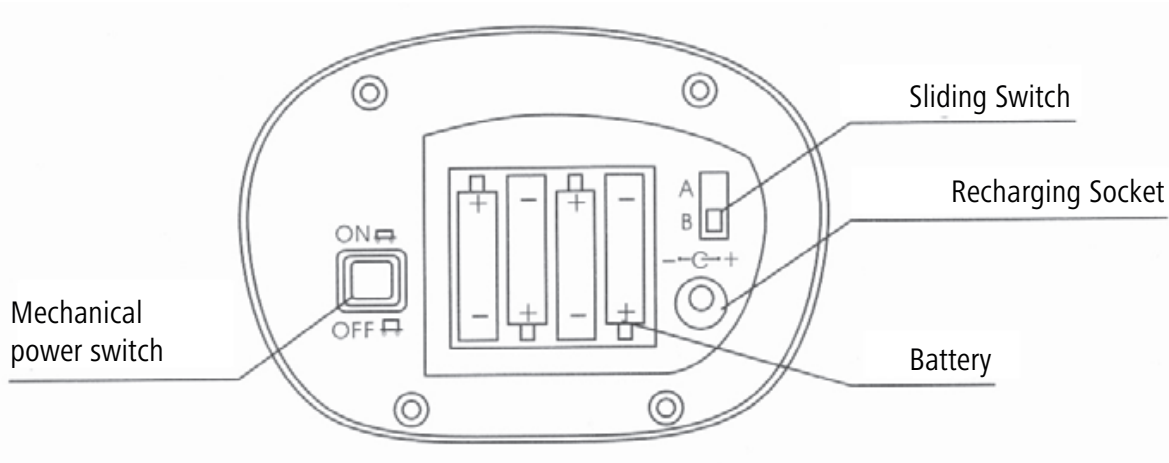

Figure 3 (Drawing of rear casing of the scale)
- a) Open the scale back cover (see Figure 3) to connect the charger adaptor. And then connect the power for the adaptor.